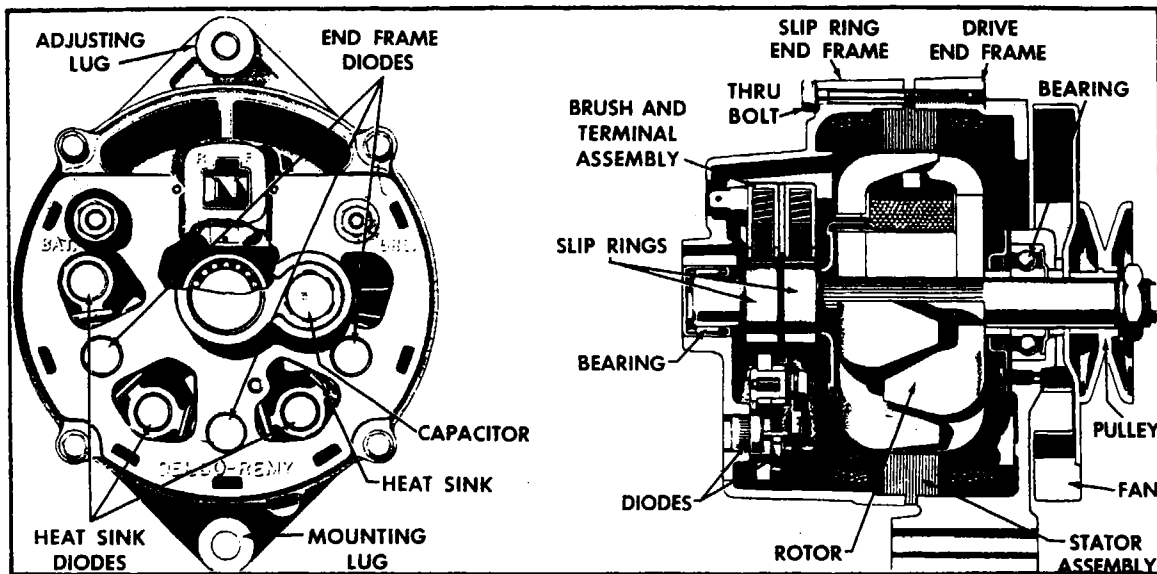

Figure 11-21. Cross-Sectional View of Alternator
a. **ROTOR CHECKS:** The rotor may be checked electrically for grounded, open, or short circuited field coils. To check for grounds, connect a 110-volt test lamp or an ohmmeter from either slip ring to the rotor shaft or to the rotor poles. If the lamp lights, or if the ohmmeter reading is low, the field winding is grounded. (Refer to Figure 11-21.)
To check for opens, connect the test lamp or ohmmeter to each slip ring. If the lamp fails to light, or if the ohmmeter reading is high (Infinite), the winding is open. (Refer to Figure 11-21.)
The winding is checked for short circuits by connecting a battery and ammeter in series with the two slip rings. Note the ammeter reading and refer to paragraph 11-66 for specifications. An ammeter reading above the specified value indicates shorted windings. An alternate method is to check the resistance of the field by connecting an ohmmeter to the two slip rings. (Refer to Figure 11-21.) If the resistance reading is below the specified value, the winding is shorted. The specified resistance value can be determined by dividing the voltage